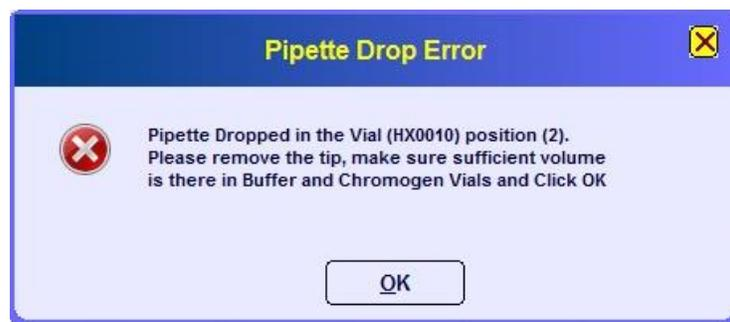

Figure70: System Error when Pipette dropped in DAB Chromogen during aspiration
b. Pipette dropped in DAB Chromogen Vial during aspiration (Figure70)